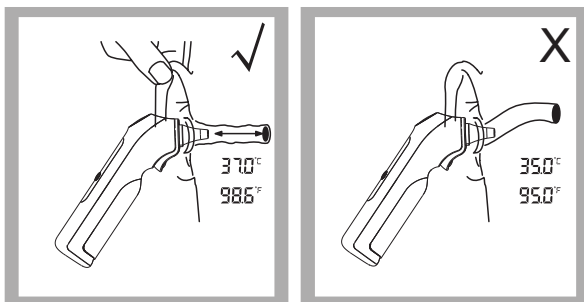

Figure 3
2. Insert the probe along the ear canal as deep as possible into the ear as depicted in Figure 3. Then press the *Test BUTTON* once to start the measurement. A long beep will sound approximately 1 second after the *Test BUTTON* is activated. This signals the end of the process as results are displayed on the LCD screen.